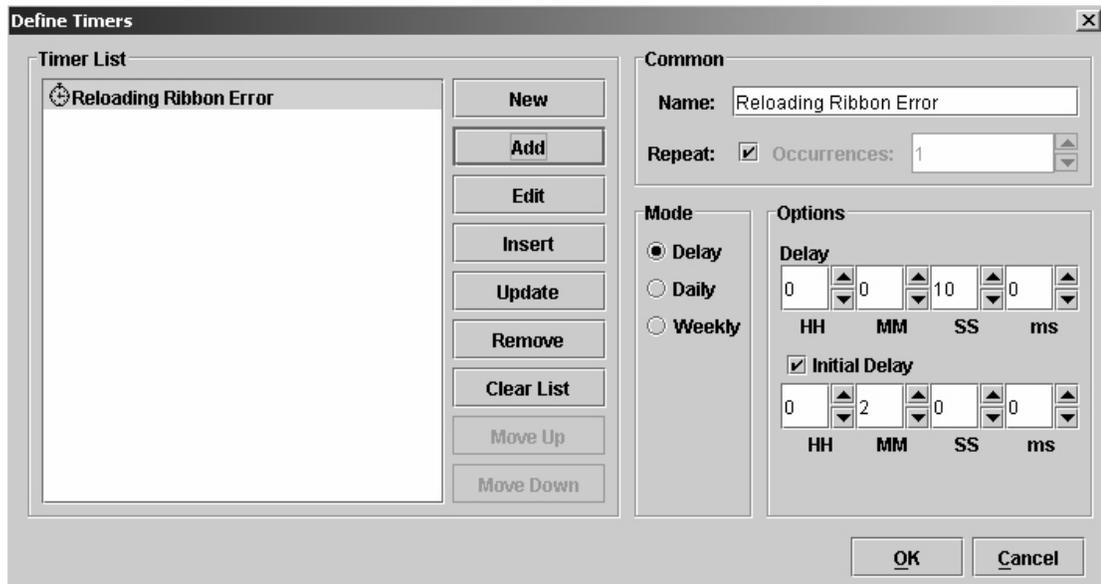

Figure 42. Setting a Delay Timer
- Click **Add**. The Ribbon Reloading Error delay timer is added to the Timer list. See Figure 42.